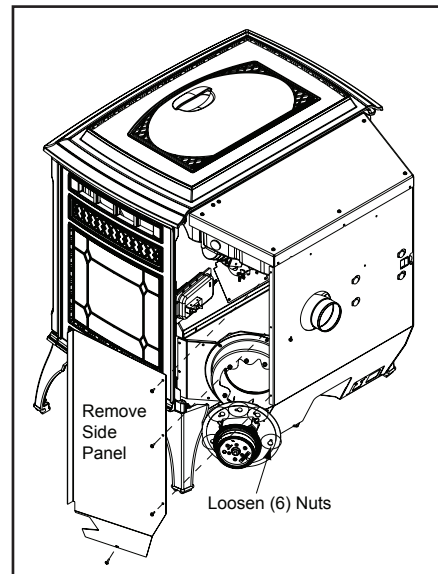

Figure 24.3
1. The combustion blower is mounted in the bottom right rear of the appliance. **Figure 24.3.**